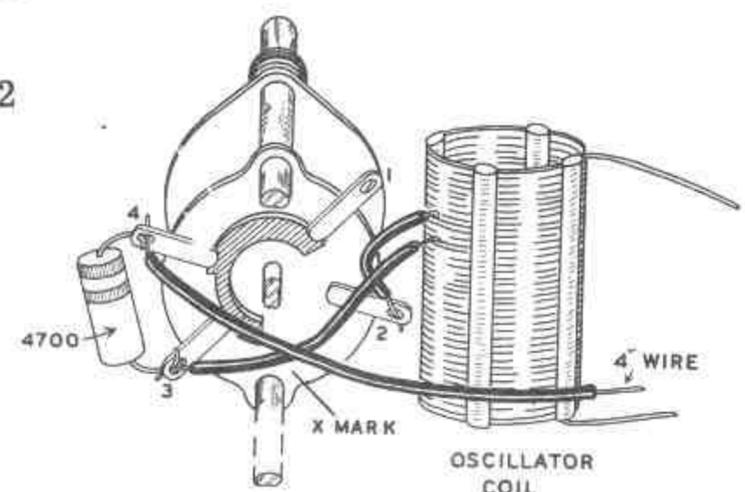
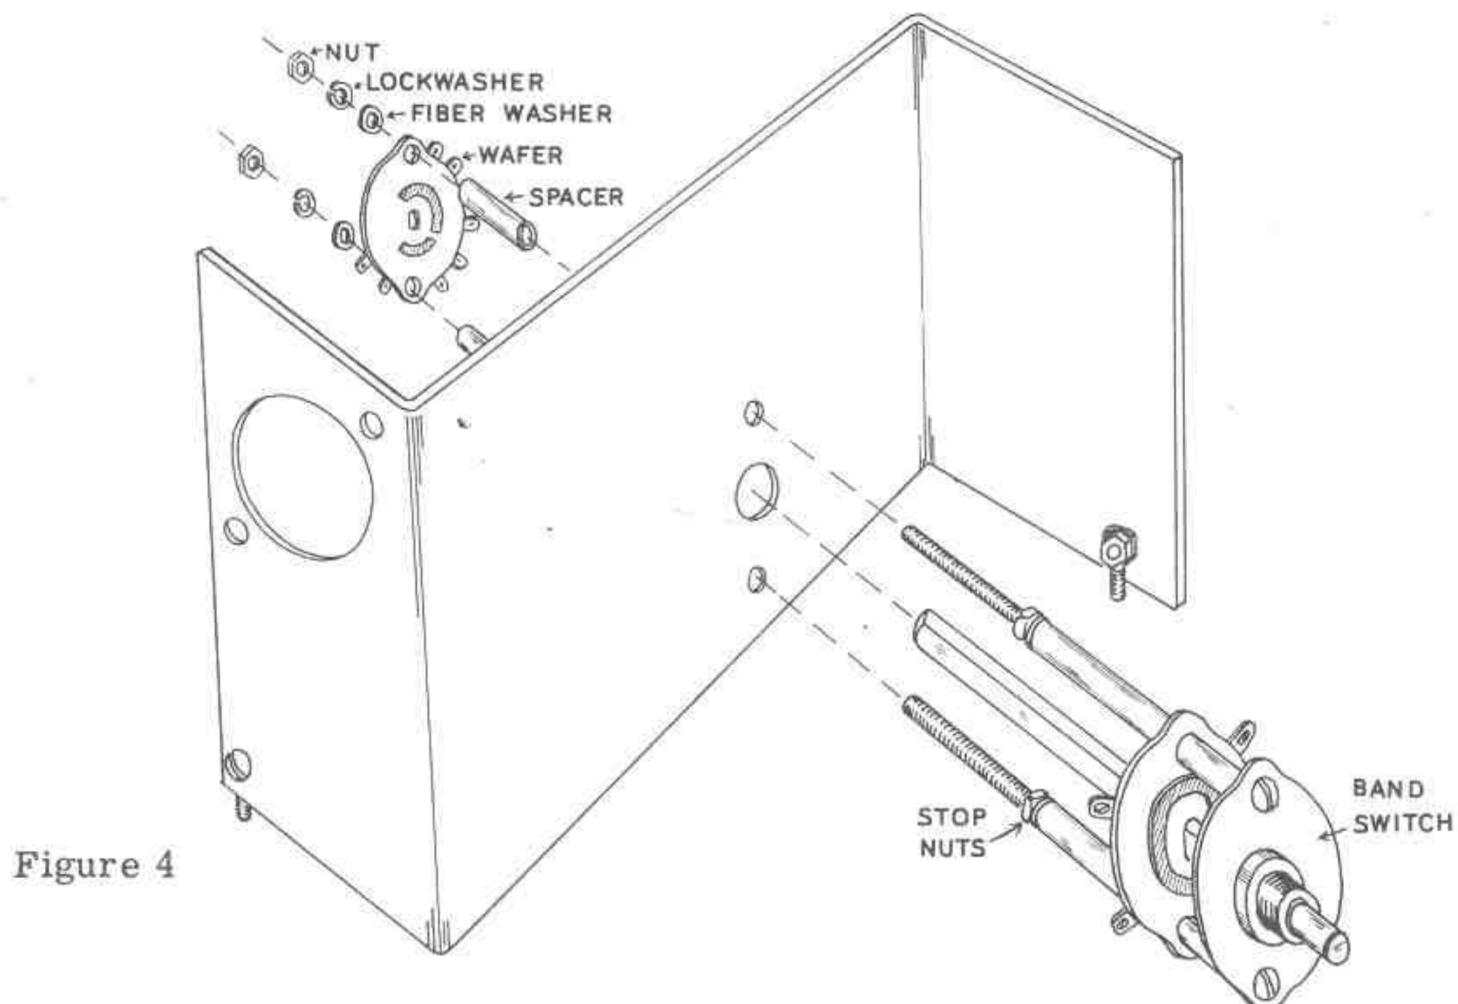

Figure 3
Figure 4
- (✓) Straighten the leads out on the oscillator coil and note the positions for the taps. See Figure 3. Counting the first, or end turn as #1, the 15 meter tap is on the sixth turn down, next to the first indented turn.
- (✓) Place the wire hook around the sixth turn down. Pinch the loop together around the tap point (S). Be careful not to use too much heat for too long or the plastic spacers may
- (✓) Form a small hook as before and place it around the #10 turn which is the 20 meter tap point. Pinch the hook together around the tap (S).
- NOTE: For the following bandswitch wiring sequence, use identifying (x) mark on the bottom end of the wafers to avoid wiring to the wrong switch terminals. See Figure 3.
- (✓) Bend both leads at right angles and on the oscillator section of the bandswitch connect one lead to #3 terminal (NS). Connect the other lead to #4 terminal (NS). Bend the resistor leads inward slightly at the ends to maintain resistor position.
- (✓) Run the longer insulated 20 meter coil tap lead under the bandswitch center shaft and through the #3 terminal of the oscillator bandswitch (S). See Figure 3.
- (✓) Bend the 15 meter insulated tap lead down and connect it to the #2 terminal on the oscillator bandswitch (S).
- (✓) Cut a piece of #20 tinned wire 4" long. Pass it under the center shaft and connect one end to oscillator switch terminal #4 (S).
- () Take special note of the wafer position and identifying (x) mark. Disassemble the rear wafer from the bandswitch back to the stop nuts. (Do not loosen these nuts.) See Figure 4.